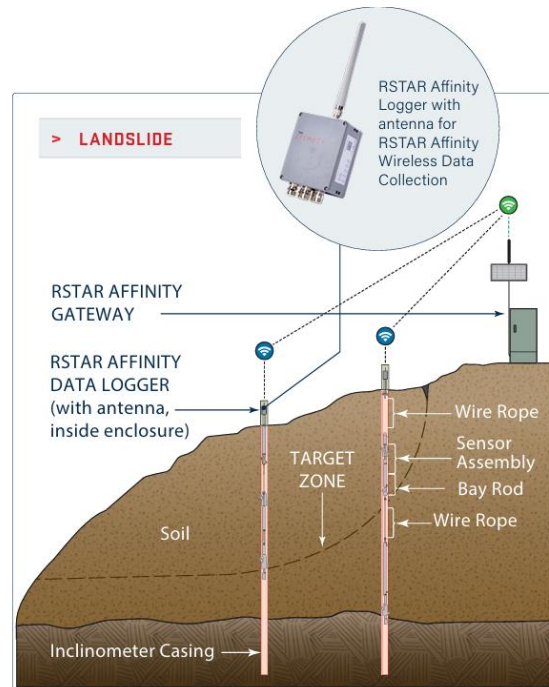

Figure 14: Example Installation Overview with RSTAR Affinity Data Collection Set-Up Showing Wire Rope Locations
1. Place the sprung wheel upwards in the inclinometer casing for correct orientation, as illustrated in Figure 14.